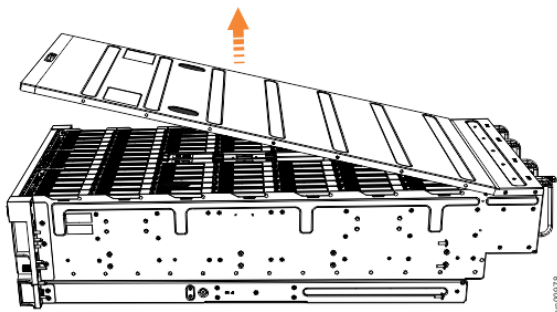

Figure 146. Removing the 5U expansion enclosure cover
4. Carefully lift the cover up, as shown in Figure 146 on page 183.